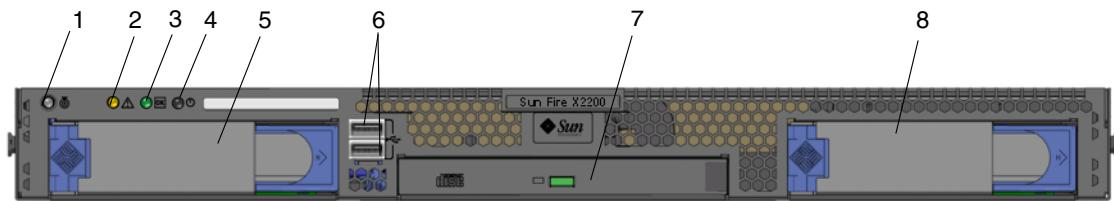

FIGURE 1-1 Front Panel
FIGURE 1-1 shows the front panel of the Sun Fire X2200 M2 server.
FIGURE 1-1 shows the back panel of the Sun Fire X2200 M2 server.
In standby power mode, the Power/OK LED on the front panel flashes, indicating that the SP is working. See FIGURE 1-1.
- a. Verify that the power cord has been connected and that standby power is on. In standby power mode, the Power/OK LED on the front panel flashes. See FIGURE 1-1.